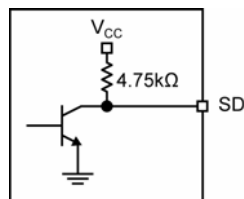

Figure 4. SD Output Structure
The SY88149CL generates a chatter-free Signal-Detect (SD) open-collector TTL output with internal  $4.75\text{k}\Omega$  pull-up resistor, as shown in Figure 4. SD is used to determine that the input amplitude is too small to be considered a valid input. SD asserts high if the input amplitude rises above threshold set by  $\text{SD}_{\text{LVL}}$  and de-asserts low otherwise. SD can be fed back to the enable (EN) input to maintain output stability under a SDs of signal condition. EN de-asserts low the true output signal without removing the input signals. Typically, 3.4dB SD hysteresis is provided to prevent chattering.